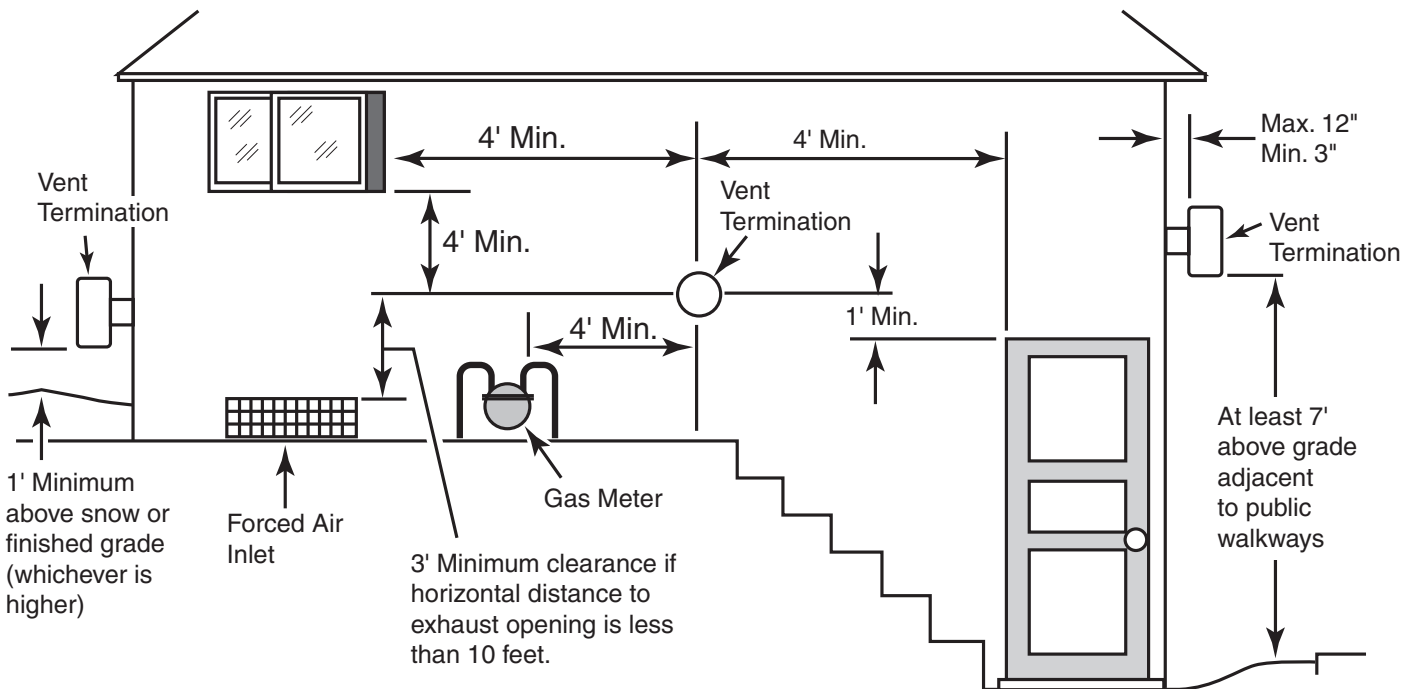
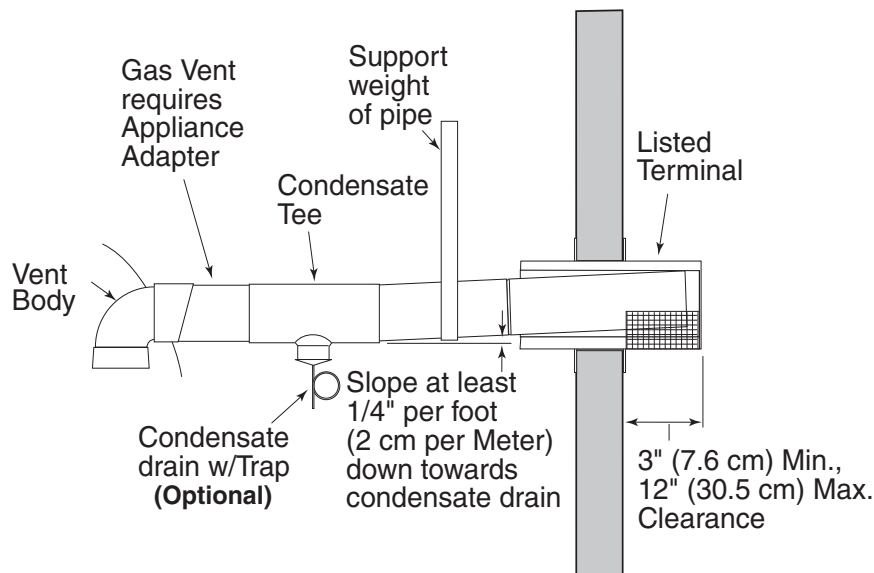
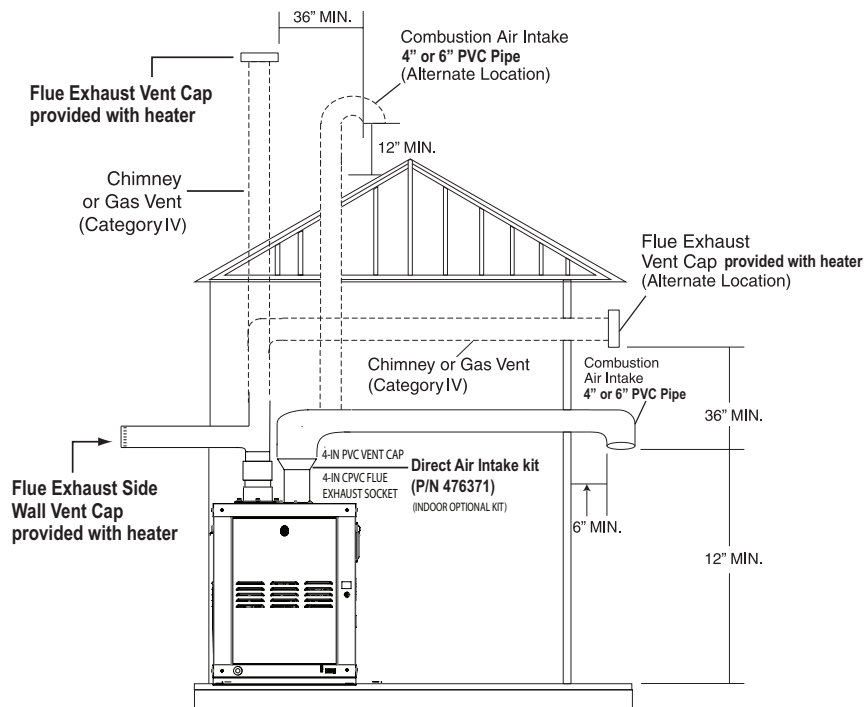

Figure 28.
Figure 29.
Figure 30.
**(See Figure 29, page 37 and Figure 30, page 38)**
3. **Vent Termination:** Vertical (See Figure 28 below and Figure 30 on page 38), for height of vent termination above the roof. Use an *Approved* vent terminal specified by local and national codes and your manufacturer's instructions. A roof termination must be vertical. In Canada, the Vent Cap location shall have a minimum clearance of 4 feet (1.2M) horizontally from electric meters, gas meters, regulators, and relief openings.
The terminal must be located (U.S. – See Figure 28 on page 36):
- at least 3" and at most 12" out from the wall (see Figure 30 on page 38), following the vent manufacturer's instructions
The terminal must be located (Canada – See Figure 28 on page 36):
The flue direct vent cap **MUST** be mounted on the exterior of the building. The direct vent cap cannot be installed in a well or below grade. The direct vent cap must be installed at least 1' (0.3 m) above ground level and above normal snow levels, see Figure 28, page 36. The direct vent cap **MUST NOT** be installed with any combustion air inlet directly above a direct vent cap. This vertical spacing would allow the flue products from the direct vent cap to be pulled into the combustion air intake installed above.
It is recommended that the intake vent (see Figure 30 below) be insulated in colder climates.